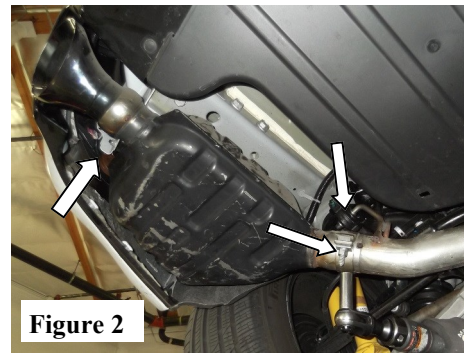

Figure 2
3. Loosen the hardware on the left-rear muffler and carefully remove the muffler from the hangars. (See Fig. 2)